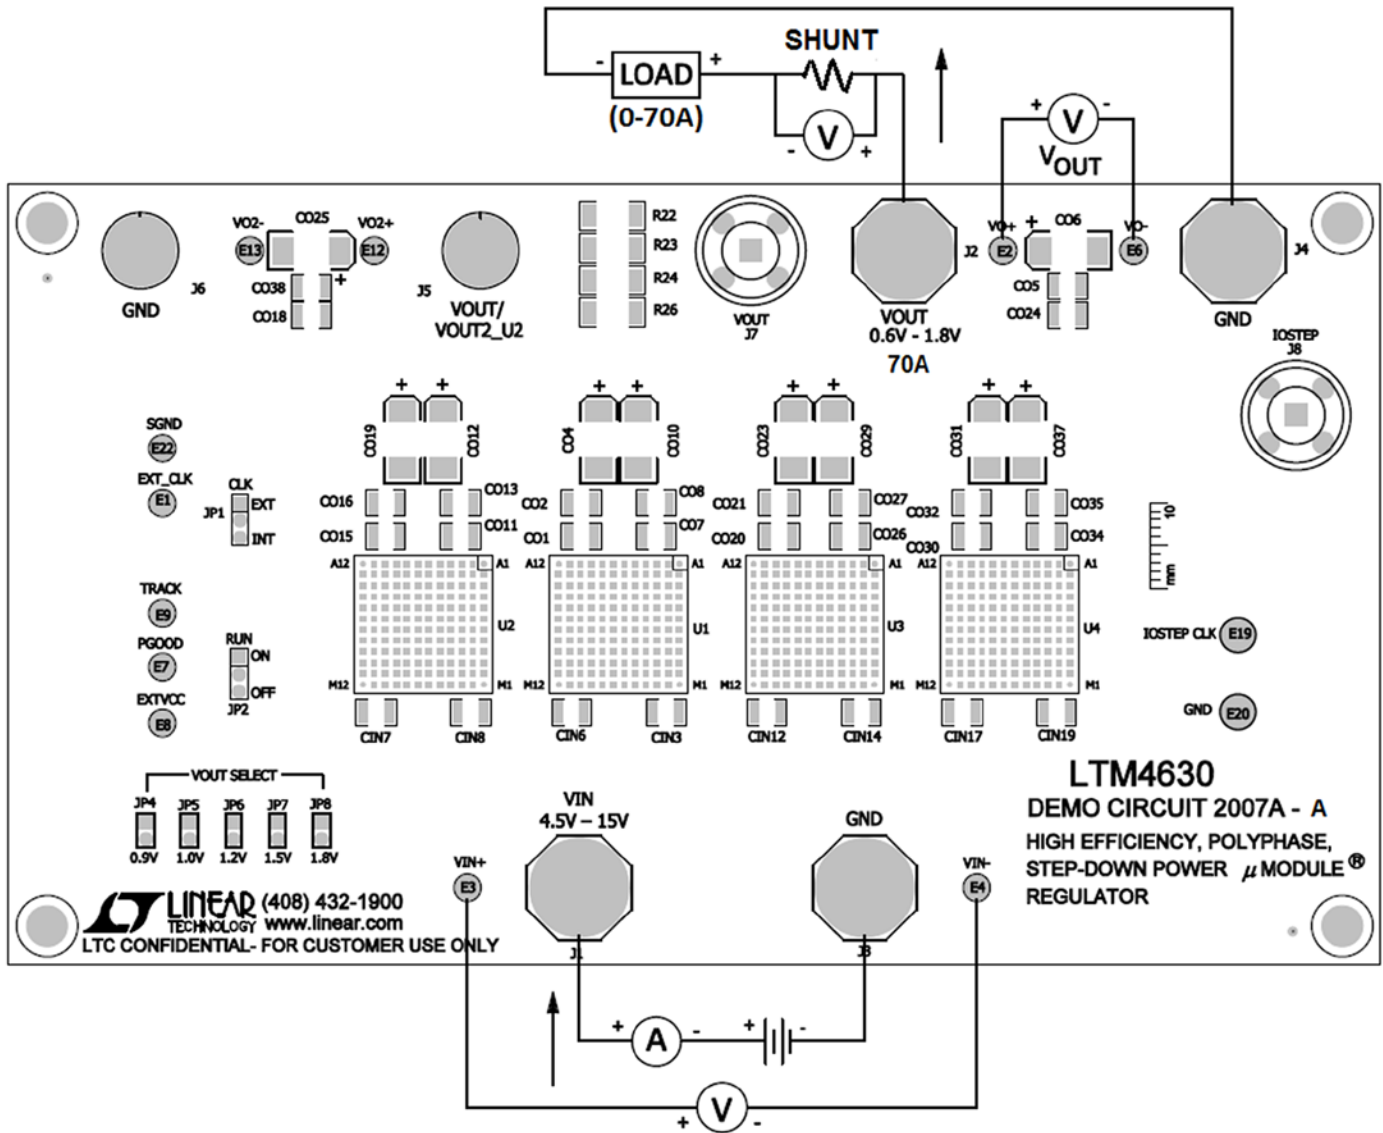

Figure 2. Test Setup of DC2007A-A
Demonstration circuit DC2007A-A is easy to set up to evaluate the performance of PolyPhase operation of the LTM4630EV. Due to the high input/output current, the user should select the proper input supply/load/cable which can sustain the full load operation. It's recommended to pull the load current from J2 and J4. The load current pulled from J5 and J6 shouldn't exceed 18A. Please refer to Figure 2 for proper measurement setup and follow the procedure below:
2. With power off, connect the input power supply, load and meters as shown in Figure 2. Preset the load to 0A and  $V_{IN}$  supply to 12V.